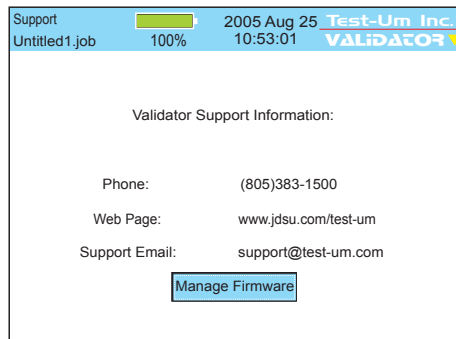

Figure 2.6 Support Information
4. Select Properties from the Start screen, then Support Info. (Figure 2.6)